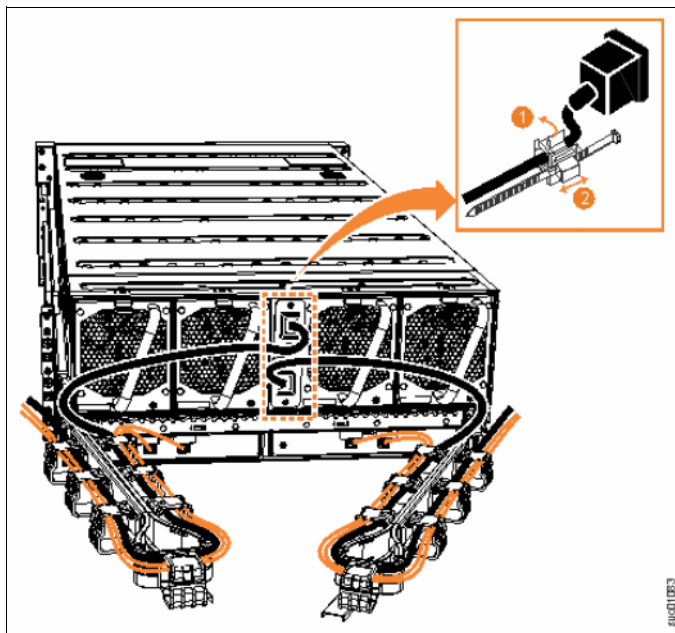

Figure 6-29 Model A9F expansion enclosure power cord connections and routing
- a. Secure the power cables in the cable retainer at each power connector on the rear of the enclosure, as shown in Figure 6-29.